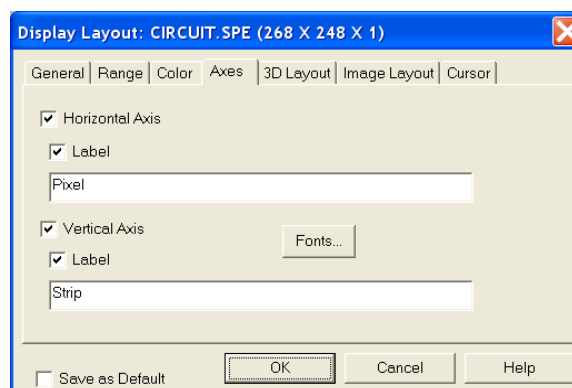

Figure 71. Display Layout/Axes tab
1. Open the **Display Layout** **Axes** tab (Figure 71). Note that the **Horizontal Axis**, **Vertical Axis**, and **Label** check boxes for all are checked (If unchecked, the corresponding axis or label would not be displayed.)